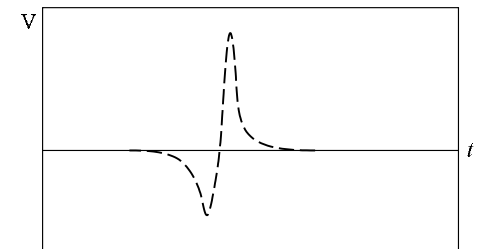

Figure 7
- 3) Verify that your Voltage vs. time curve resembles that shown in Figure 7. If it does not, then delete this data run and repeat step 2 until it does.